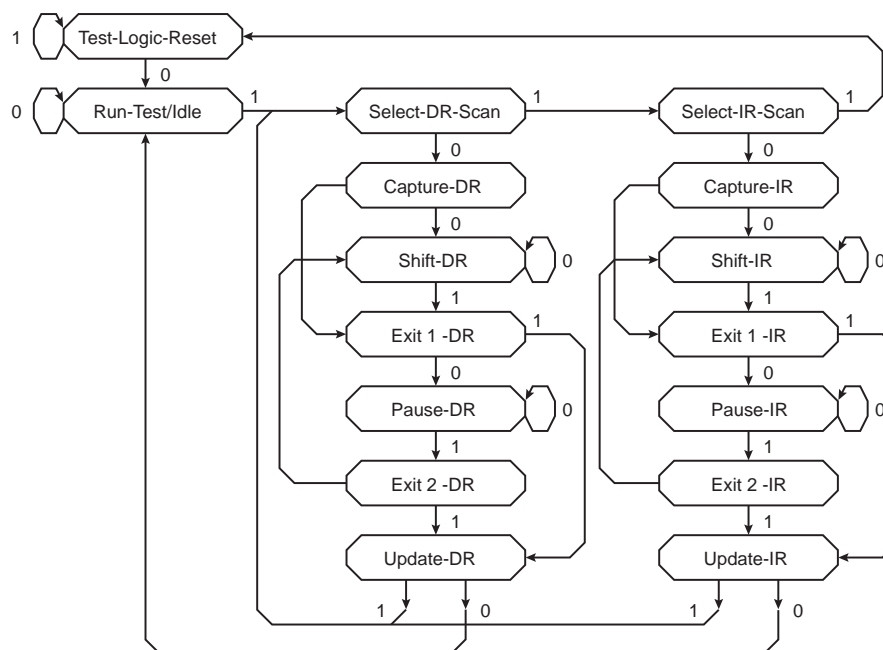

Figure 31-6 TAP Controller State Transition Diagram
The state transition diagram of the TAP controller is shown in Figure 31-6. Each arrow between states is labeled with a 1 or 0, indicating the logic value of TMS that must be set up before the rising edge of TCK to cause the transition.
The following paragraphs describe each of the controller states. The left column in Figure 31-6 is the data column, and the right column is the instruction column. The data column and instruction column reference the data register (DR) and the instruction register (IR), respectively.